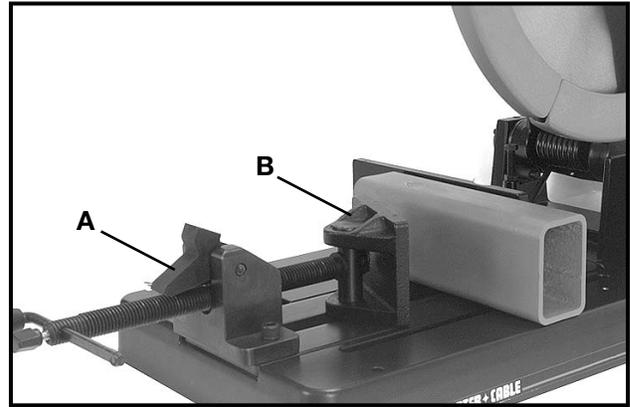
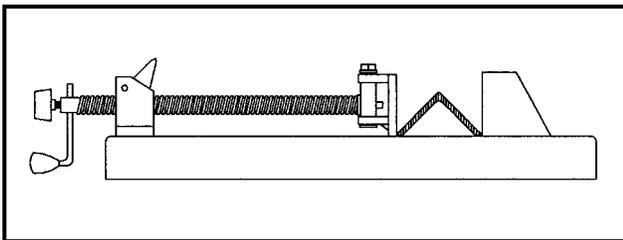
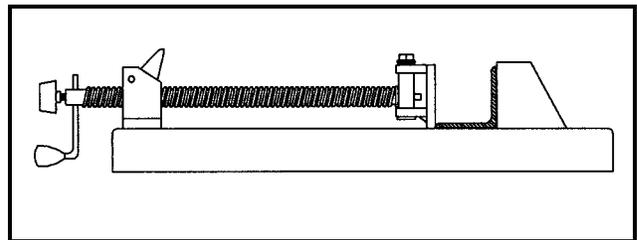

Fig. 9
Fig. 10
Fig. 11
Move clamp locknut (A) Fig. 9 to the rear. Slide rear vise jaw (B) Fig. 9, to the rear enough to permit workpiece to be placed between vise jaws. Position workpiece into work vise (see Figs. 10 thru 15 for recommended
Figure 10 represents the preferred clamping method. Figures 11 and 12 represent acceptable clamping methods when required for the specific application.